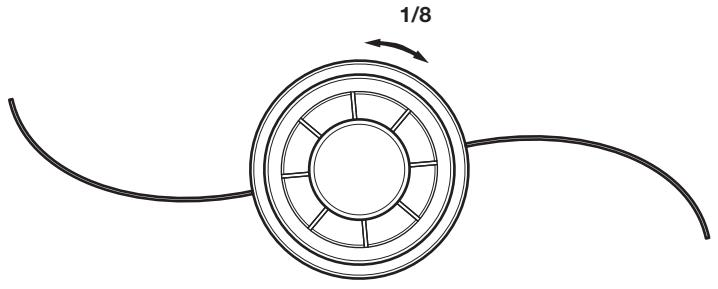

Fig. 7
- IF..** the lower shaft housing does not enter the coupler completely and the holes do not align, remove the lower shaft housing, rotate the cutting head slightly (1/8th turn) and repeat step 4 (Fig. 7).